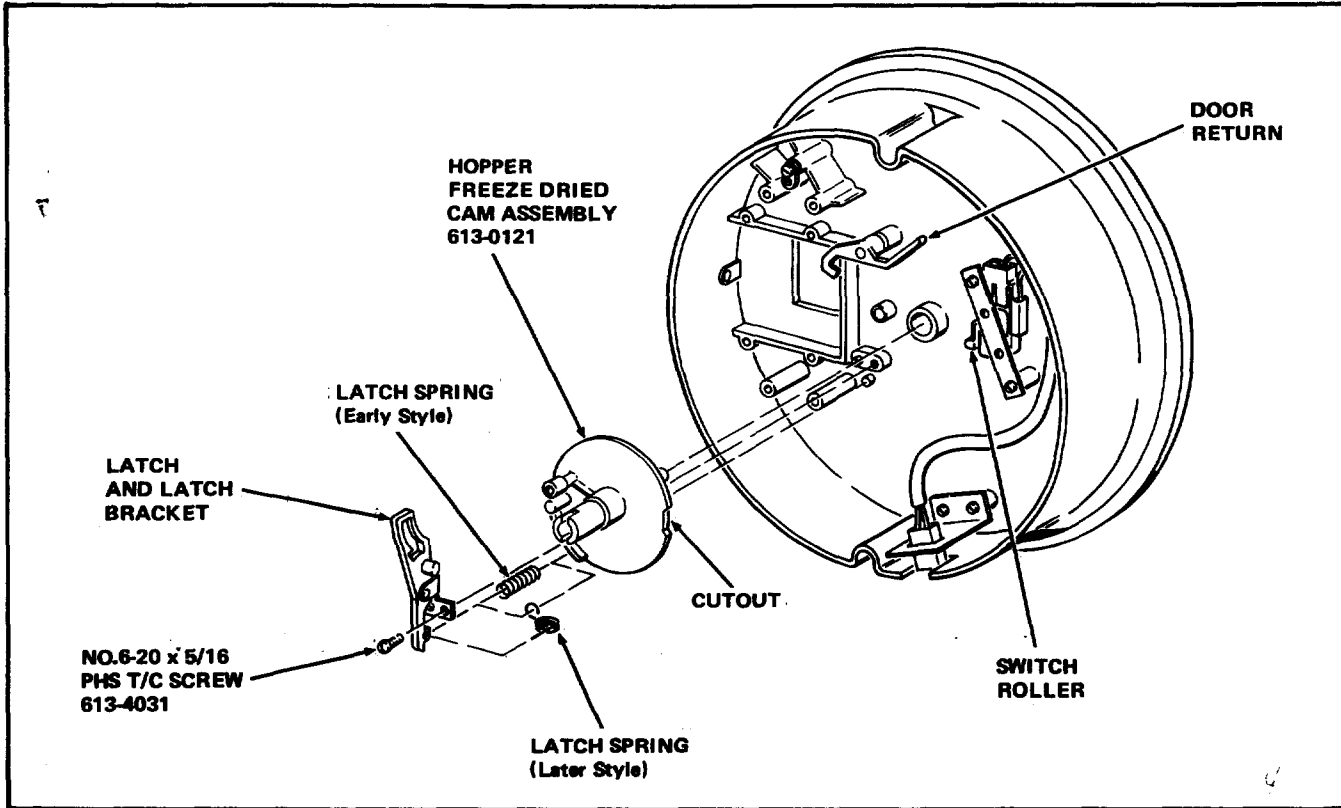

FIGURE 4
the Coffee Hopper Base. Make sure the Switch Roller fits in the cutout of the Cam. See Figure 4.
2. Place the Door Return in the at-rest position as shown in Figure 4, then mount the Latch and Latch Bracket in the Coffee Hopper Base and attach with a No.6-20 x 5/16 Pan Head Thread Cutting Screw, Part Number 613-4031, included in the Kit. See Figure 4.
Step 3 applies only to the early style Latch Spring shown in Figure 4.
3. Install the Latch Spring by inserting one end of the Latch Spring over the Coffee Hopper Base Stud and the other end over the tip on the Latch. See Figure 4.
Step 4 applies only to the Later style Latch Spring shown in Figure 4.
4. Install Latch Spring by inserting the Straight End of the Latch Spring into the Hole in the Latch and the Loop End of the Latch Spring over the Coffee Hopper Base Stud. See Figure 4.